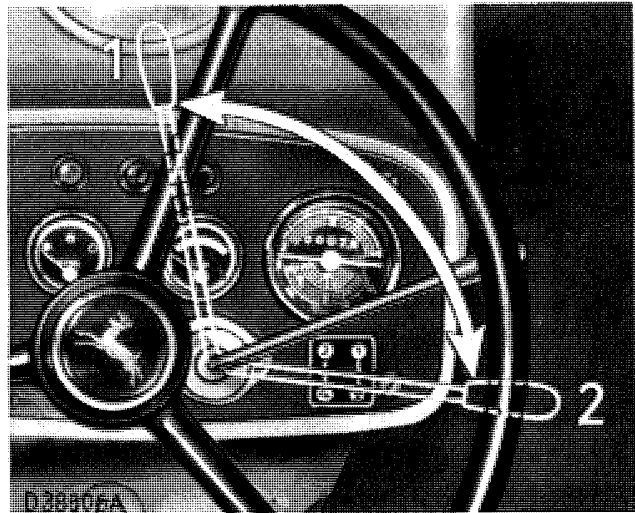

Fig. 10: Hand throttle.
6. Place hand throttle in medium position, if tractor has "Bosch" or "Roosa Master" injection pump; place hand throttle to full speed position, if tractor is equipped with "Roto Diesel" pump (position 2, Fig. 10).
For work in the field the hand throttle (Fig. 10) is set immediately to the desired setting as shown on the tractor-meter (Fig. 19): When the accelerator pedal is released the engine speed will return to the speed set by the hand throttle.